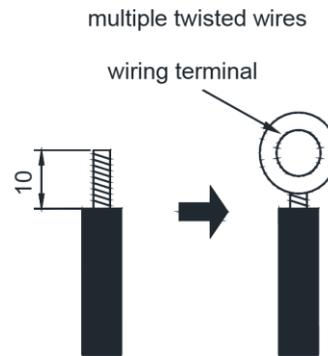

Fig.5.1.2
- (2) The connection of stranded wire (as shown in fig.5.1.2)